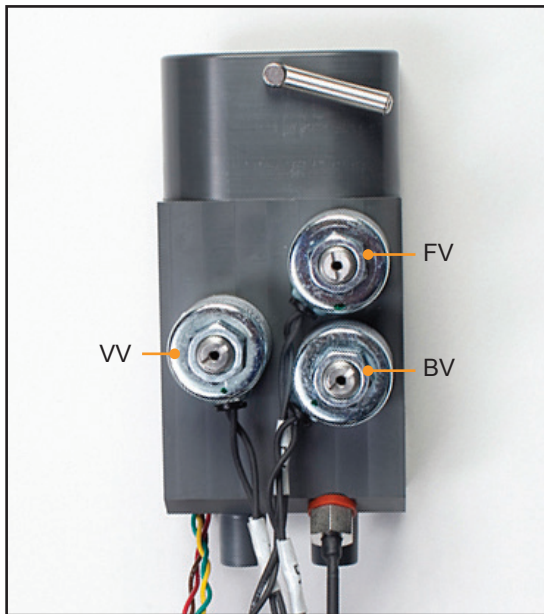

Fig. 8-59 Manifold, showing position of the 3 solenoids (Step 8)
8. When reinstalling the Manifold Harness, note that there are labels on the harness identifying the solenoids (FV, BV, VV). If the solenoids are not in the proper position as shown, the device will not work properly (Fig. 8-59).